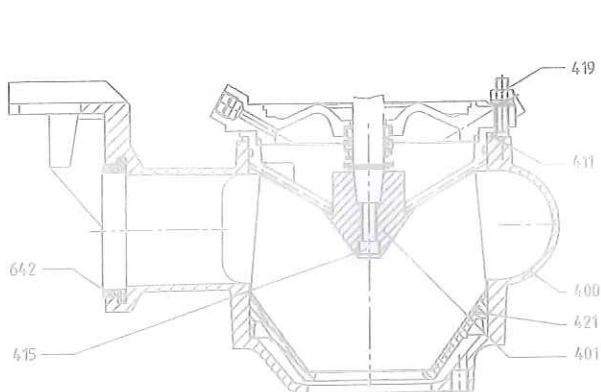

Fig. 4: C0CQ/D0DQ/D03H/DE3H/D03M/D04M
3.4.2 ASSEMBLY OF LINER FOR TYPES C0CQ / D0DQ AND C080 / D100 "NON REGULABLE" (Fig. 4 and 5)